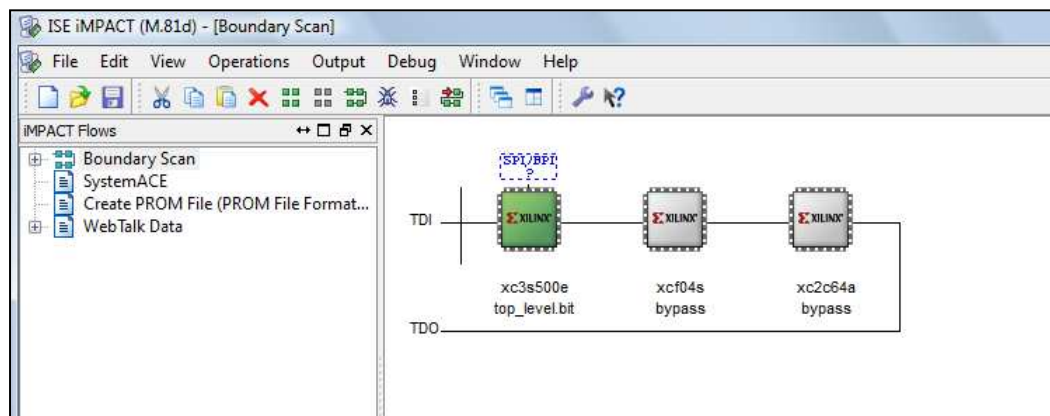
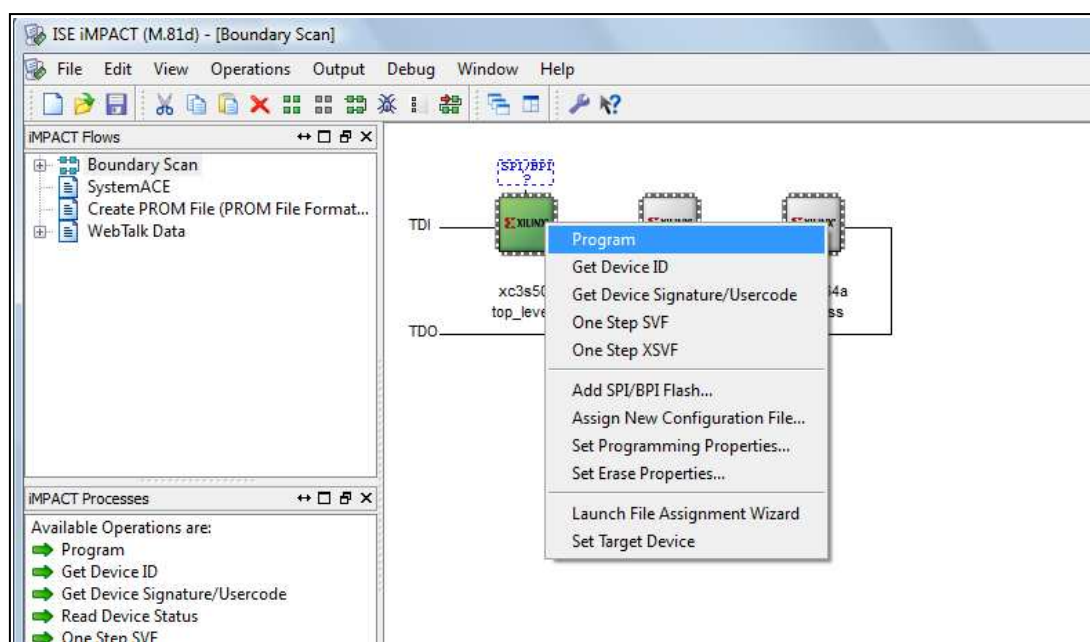

Figure 6.58: iMPACT window, showing the device chain.
Figure 6.59: iMPACT window, options which appear when right clicking on the xc3s500e.
13. The iMPACT window should now appear as shown in Figure 6.58. Right click on the xc3e500e chip (Figure 6.59) and select **Program**.